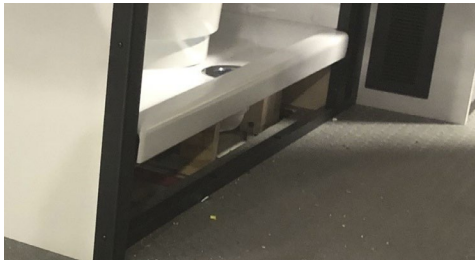

Figure 6
- Remove screws from the shower access panel, shown in Figure 6, to gain access to the underside of the shower to route cable. NOTE: shower bottom is fiberglass, gloves may be needed while routing cable.